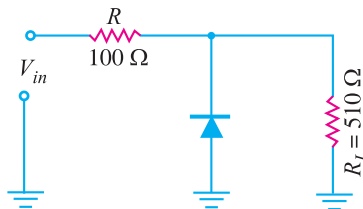

Fig. 18.66
1. The negative shunt clipper shown in Fig. 18.66 has peak input voltage of +15 V. What is the output peak voltage ? [12.54 V]